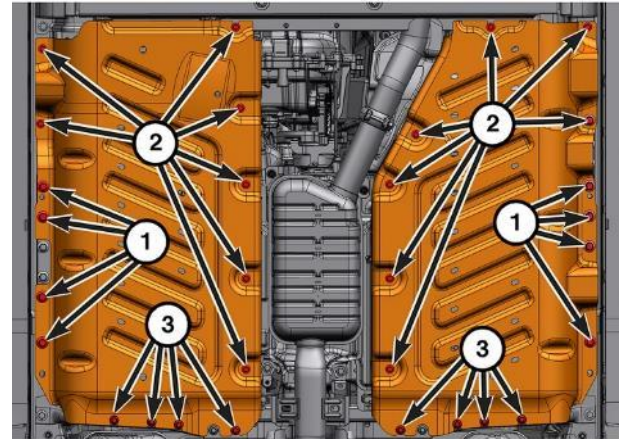

Figure 56 – HV Battery Skid Plates
81. Install the secondary battery skid plate(s) and bolts. Tighten the bolts to torque specified in (Figure 56).
82. Install the primary battery skid plate(s) and bolts. Tighten the bolts to torque specified in (Figure 56).